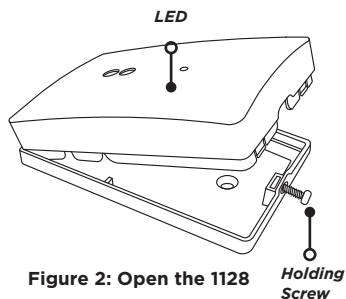

Figure 2: Open the 1128
1. Remove the holding screw at the lower end of the 1128 case and gently lift off the cover. See Figure 2.
2. Press the tamper switch to send data to the receiver and determine if communication is confirmed or faulty. See Figures 2 and 3 for tamper switch and LED locations.